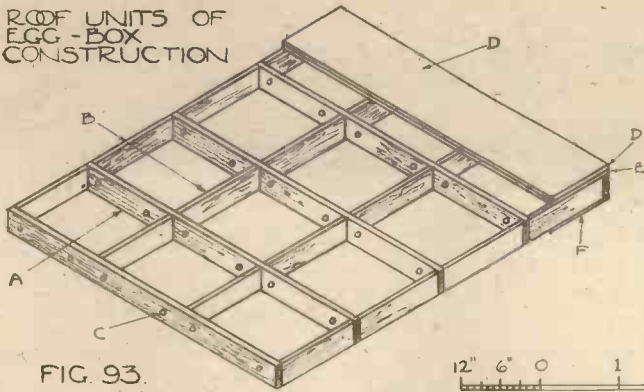
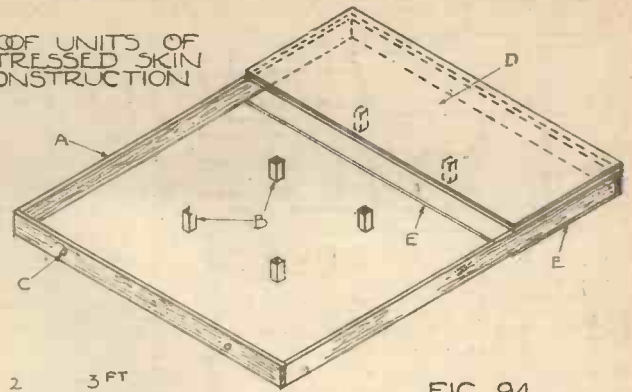

FIG. 93.
FIG. 94.
Fig. 93.—A—3in. x 1½in. main timber member. B—3in. x 1in. cross members. C—Vent holes to allow circulation of air through units. D—Sheet roofing material. E—Rough boarding. N.B.—Insulating material may be added if desired. F—Ceiling.
Fig. 94.—A—3in. x 1in. or 1½in. timber frame. B—1½in. x 1½in. or 2in. x 2in. pegs. C—Vent holes. D—Roofing material laid on stressed section sheeting. E—Stressed section forming ceiling.
The roof units may be designed and constructed as follows: (1) Of a light timber framework as Figs. 90 to 92, consisting of 3in. x 2in. or 1½in. members spanning in the 4ft. direction, and with 3in. x 1in. end boards framed in between or over the ends of the 2in. or 1½in. thick members. The joints in the framing must be framed and connected with proper joints or fastenings to resist all calculated stresses. (2) The egg-box principle, as shown by Fig. 93, formed with 3in. x 1½in. main members spanning without break in the 4ft. direction of the unit, and 3in. x 1in. cross pieces nailed between the main members. (3) The stressed-skin method, as Fig. 94, which consists of a framework around the four edges of the unit and 1½in. x 1½in. or 2in. x 2in. pegs in position where shown and fixed to the stressed skin upper and lower sheets.
The egg-box type of unit, as Fig. 93, may be covered similarly to the timber-framed units.
The stressed-skin unit, as Fig. 94, must be primarily covered with plywood, usually ¾in. thick, or of a thickness required by calculation of the stresses. An insulating material may be laid on top of the plywood if desired.